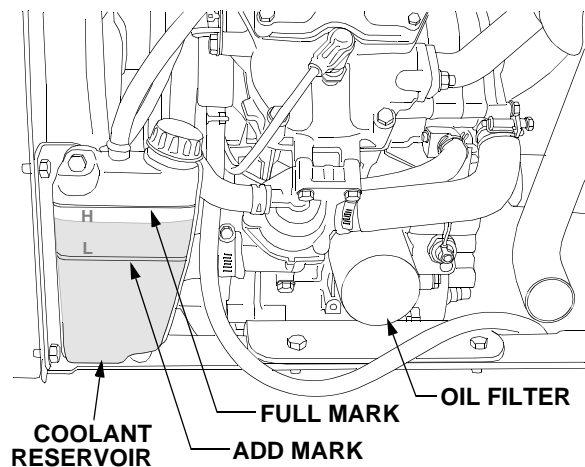

Figure 53
- Remove the filter by turning it counterclockwise using an automotive type filter wrench to loosen. See Figure 53.
- Raise the tractor hood and check the coolant level in the overflow reservoir on the *left* side of the engine. Refer to Figure 53.